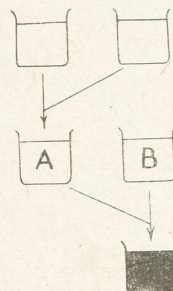

Fig. 3 — The sequence of mixing in performing the ink-and-water trick
A detail of a side (B) is shown in Fig. 3. Two of these are required and they are cut from $\frac{3}{8}$ in. wood. The back